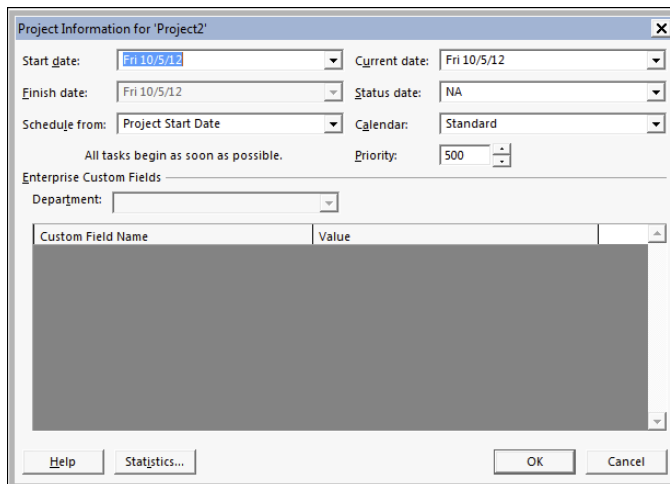

Figure 2-4:
- ✓ **Choose Project and click the Project Information icon.** You see the Project Information dialog box, shown in Figure 2-4. It holds the same information as the Project Information section on the File menu.